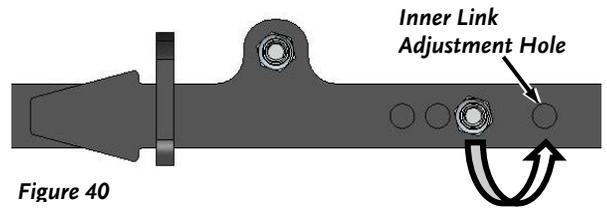
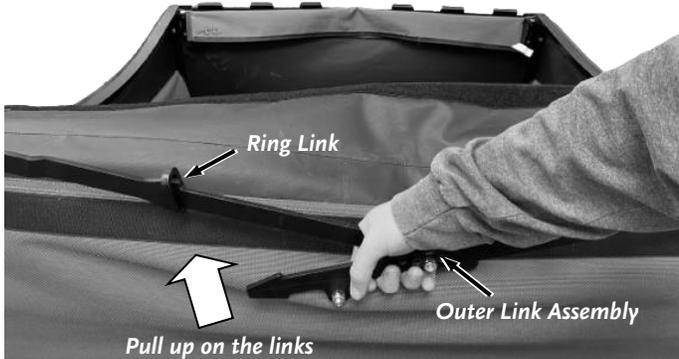
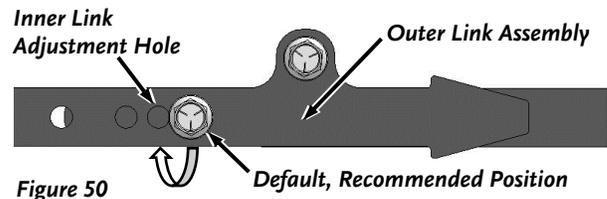

Figure 40
Figure 49
Figure 50
**Note:** The canvas is intended to be tight but if the scissor links start to bow out, an adjustment can be made. You can adjust the center bolt and nut to another hole location to reduce the difficulty of this action (**Figure 40**).
2. Set the back width of the canvas by pulling up on the links (Figure 49), until both links are parallel. With both links parallel, slide the ring link over to prevent the two parts from coming apart (Figure 50).
**Note:** The canvas is intended to be tight but if the scissor links start to bow out, an adjustment can be made. Start by adjusting the Inner Link Assembly (Figure 40) and adjust the canvas as needed to realign the seams in the corners. If after adjusting the inner link assembly, the outer link is still bowing, adjust the outer link as shown in (Figure 50).